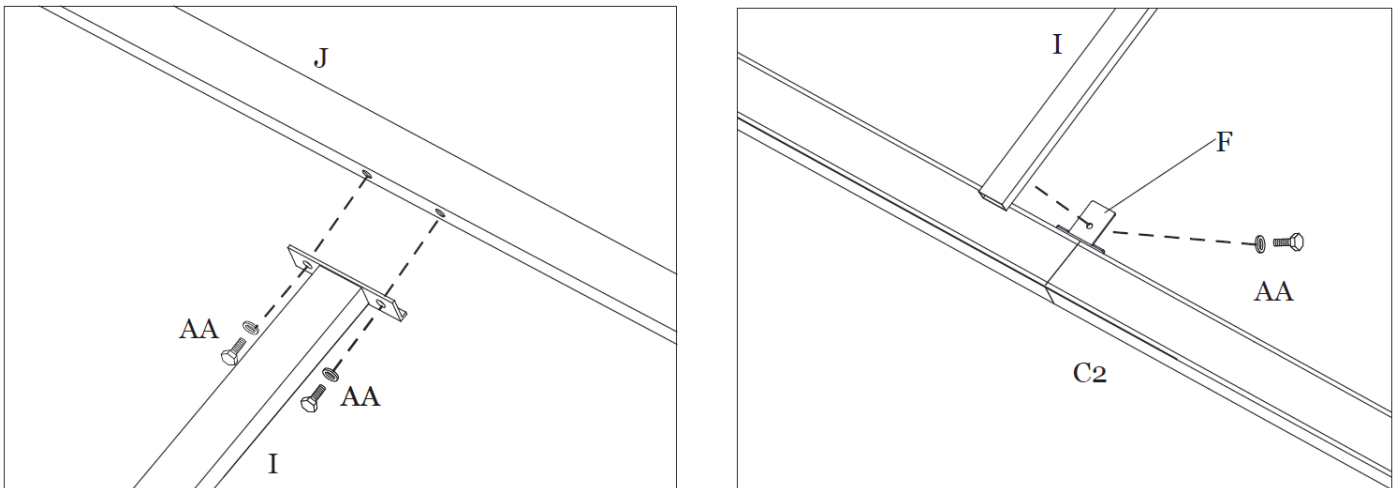

Figure 6-3
Step 6C: Attach the Main Roof Vertical Center Supports (I) to the Main Roof Center Frame (J) and the Lintel Brackets (F) using Bolts (AA). **Hand Tighten Only.** See Figure 6-3.